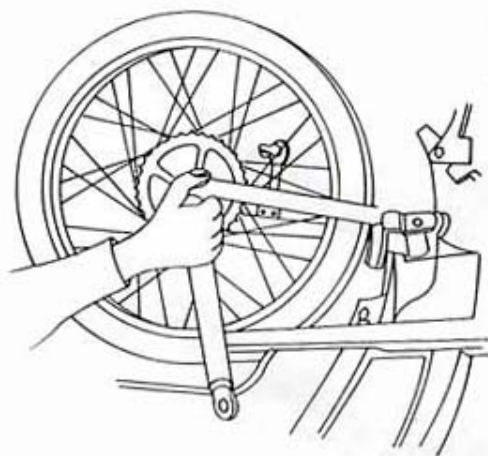

Fig. 4
- Remove the swing arm complete with shock absorbers and the rear wheel (fig. 4).